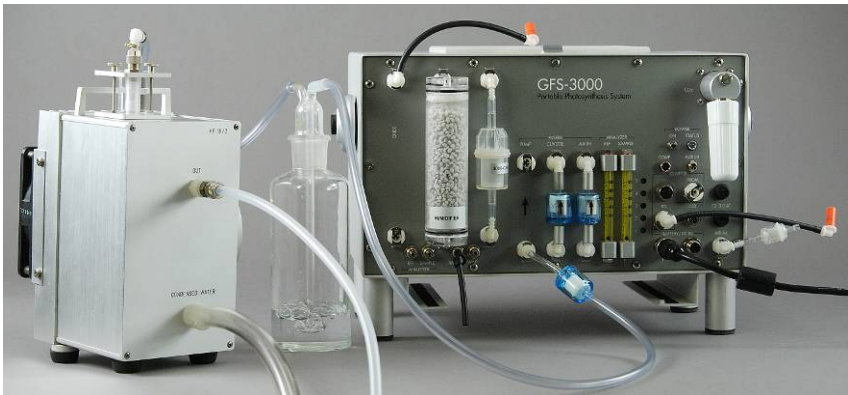

Fig. 61: Water bubbling through humidifying bottle after pump has been switched on.
The zero-point always needs to be calibrated before a span-calibration can be performed. For the H₂O span calibration a cold-trap is required. Use the 6,4 mm connector from the spare-kit at the outlet of the cold trap. Follow the instructions slowly and very carefully and step by step to avoid pushing water into the system, which would be a fatal mistake. Switch the controller of the cold trap on as early as possible before calibration. The temperature of the cold trap needs to be at least 2 °C lower than room temperature to allow proper saturation of the gas in the water bottle. Only when the set temperature is reached and condensation occurs, the cold trap has reached the set humidity value. To check whether condensation occurs, tilt the cold trap forward and watch whether water is running into the condenser hose. Fill only a small amount of water into the humidifying bottle to keep the back pressure low (see Fig. 61).
- After clicking OK, the pump will be switched on (Fig. 61) and water will bubble through the humidifying bottle.